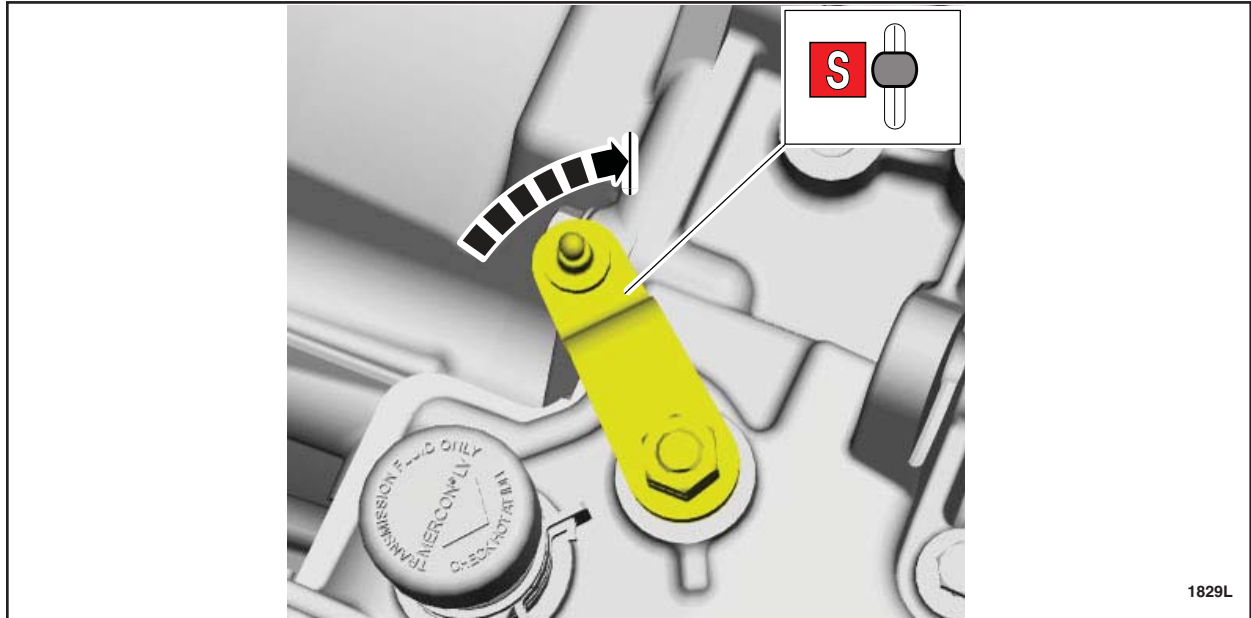

FIGURE 10
11. Rotate the manual control lever clockwise until it stops. See Figure 10.